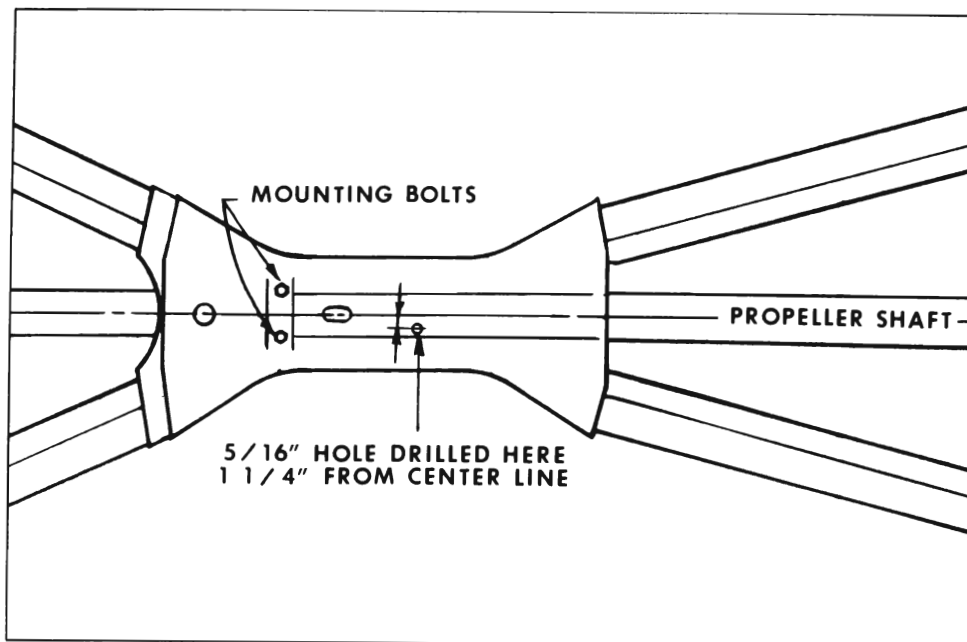

Figure 6-75—Locating Access Hole in Frame
4. To provide an access hole in the frame tunnel for inserting a screwdriver to tighten the hose clamps, drill a $5/16$ " hole located as follows: Measure from the rear of the frame tunnel forward to the first welded-on balance weight. Subtract $1/2$ " from this measurement; then using this distance, measure from the rear of the frame tunnel forward and mark this distance on the bottom outside frame tunnel. This locates the hole between the clamp screws so both can be reached. Offset the hole approximately $1-1/4$ " from the car centerline and drill the $5/16$ " hole. See Figure 6-75.